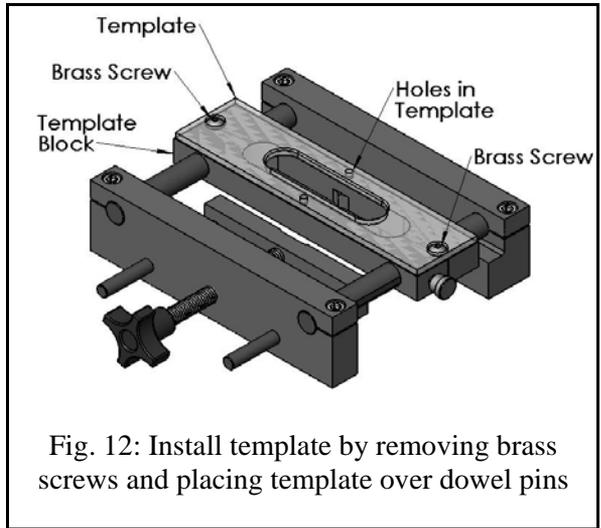

Fig. 12: Install template by removing brass screws and placing template over dowel pins
**Step 2.** Referring to Fig. 12, select a **template** and then install it by first removing the **brass screws**. Use the 3/32" hex key that was included with the jig. Place the template onto the **template block** so that the **holes** in the **template** mate with the